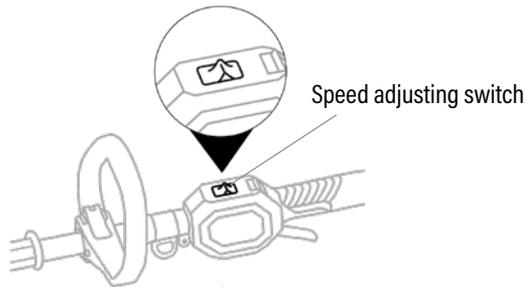

Fig. 9
2. Push the speed adjusting switch to "SPORT" for step-less speed regulation from 5000-8000RPM. And to "ECON" for fixing the speed of 6000RPM. (Fig.9)